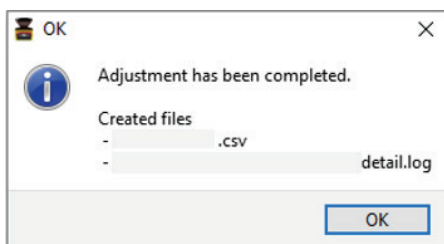

Figure 8-3 Adjustment completed display
- d) When the adjustment is complete, dialog box as shown in Figure 8-3 will appear. Click the OK button. USB will be disconnected automatically and SE2L will switch to normal operation. Retry the adjustment after checking the optical window and USB connection if an error occurs during the process. If adjustment fails even after repeated trial contact the nearest distributor or sales representative for support. Send the restoration files (.csv file and .log file) for investigating the cause of failure in such case.